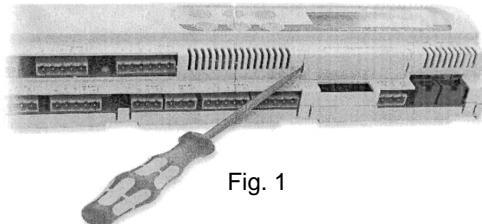

Fig. 1
- Switch off the pCO² and remove the "expansion memory" cover with a screwdriver (see "Copy from pCO² to the Software Key" on page 3-15/Fig. 1).
- Switch off the pCO² and remove the "expansion memory" cover with a screwdriver (see Fig. 1).